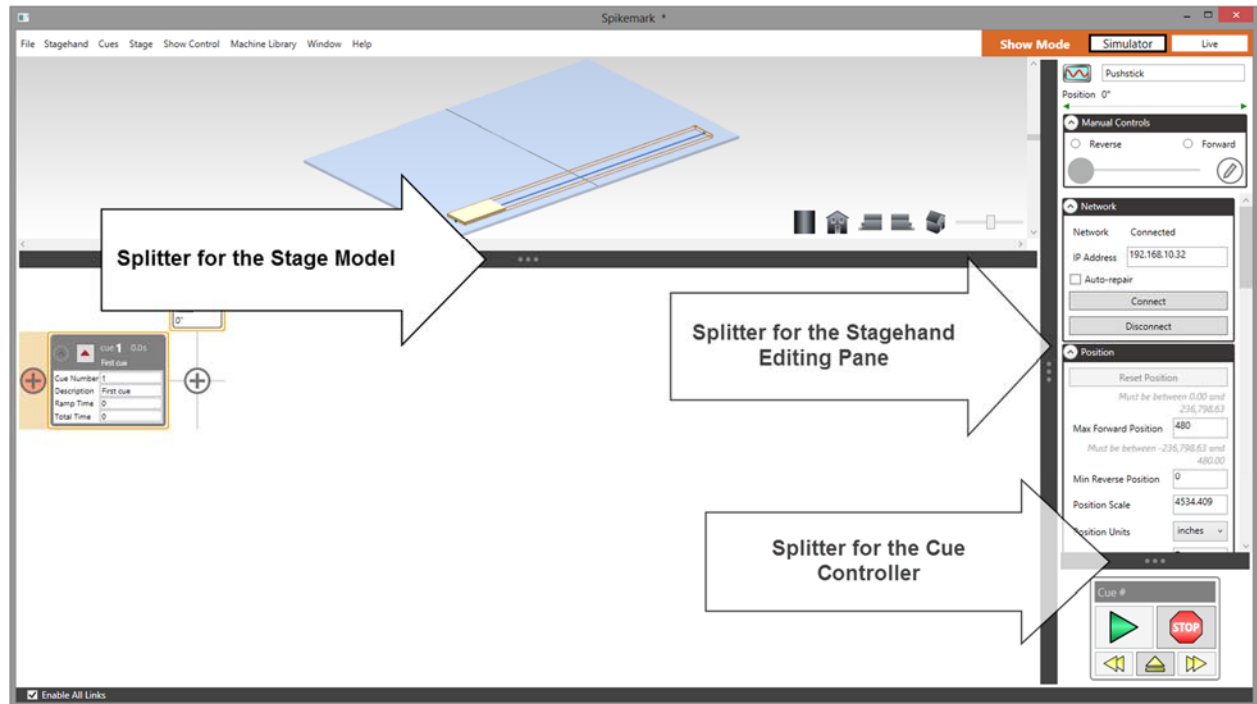

Figure 101
**Splitter Panes** allow you to adjust the size of the four sections of the Spikemark screen (the **Stage Model Viewer**, the **Motor or FX Editing Pane**, the **Cue Controller** and the **Cue Grid**). Click and drag on the **Splitter Panes** that separate each section (Figure 101). To fully collapse a pane, double-click on the **Splitter Pane**. To expand a collapsed pane, double-click again on the **Splitter Pane**.